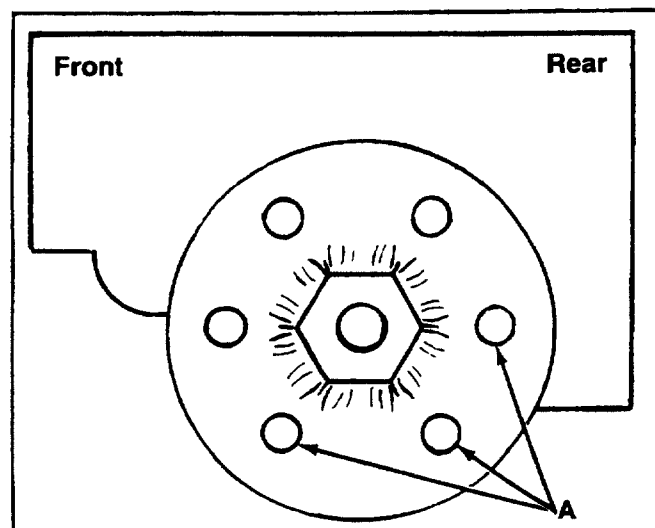

FIGURE 13.
A. = Patch bolt 3/8-16 x 4" Lg., Grade 5, and lock washer 3/8" I.D. See figures 13 and 14.